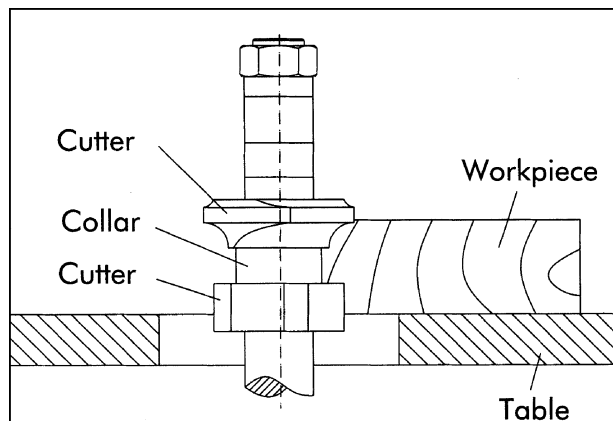

FIGURE 39
3. Using the collar between two cutters has the advantages and disadvantages of the first two procedures, and is frequently used where both edges of the work are to be molded. See Figure 39.